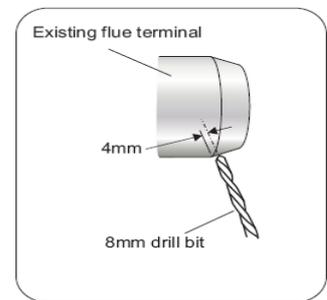

Figure 3.
3. Drill a pilot hole followed by an 8mm hole in the side of the existing flue terminal (as shown in figure 3) to ensure the condensate drains back into boiler.